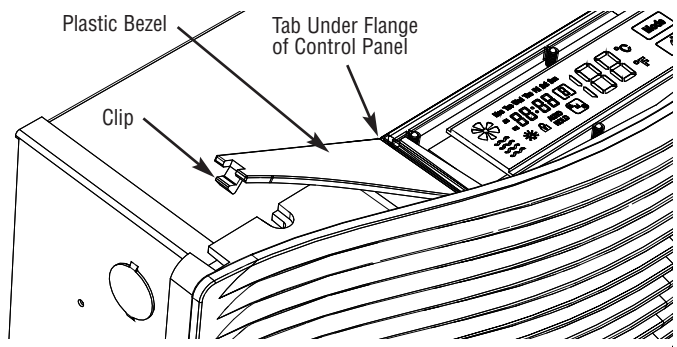

Figure 7- Securing Plastic Bezel
4. Install (2) plastic bezels (left and right) on either side of the control panel by inserting the wide tab under the flange on the control panel as shown in Figure 7, rotating the narrow end down and pressing firmly so the clip snaps into place.